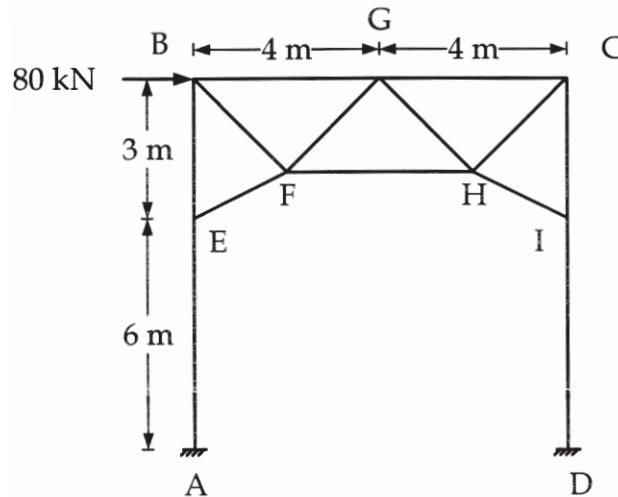

Fig. 1
- b)** Determine the forces in the various members of the portal bracing system shown in Fig. 1 and plot the shear force, bending moment and axial force diagram for the member AB. [15]